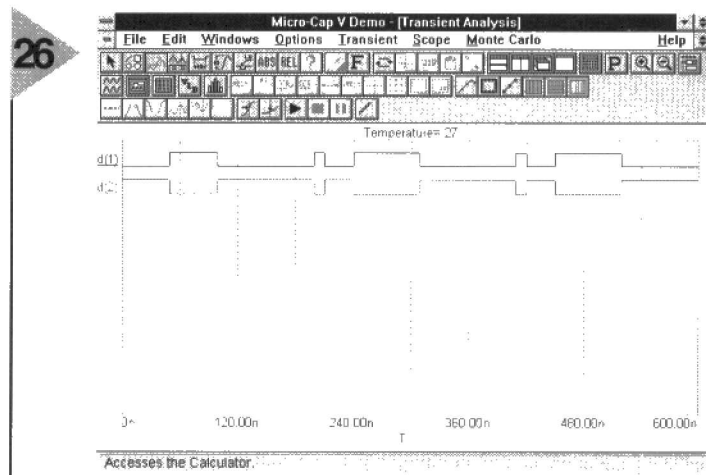

Figure 26. Waveforms resulting from the action of the setup in Figure 25.
over twice. Check the Auto Scale Ranges box. The X Expressions are T, and the Y Expressions are D(1) and D(2) respectively (D for digital). Then Run. The result is Figure 26. The upper plot shows the sequence of pulses generated according to the command